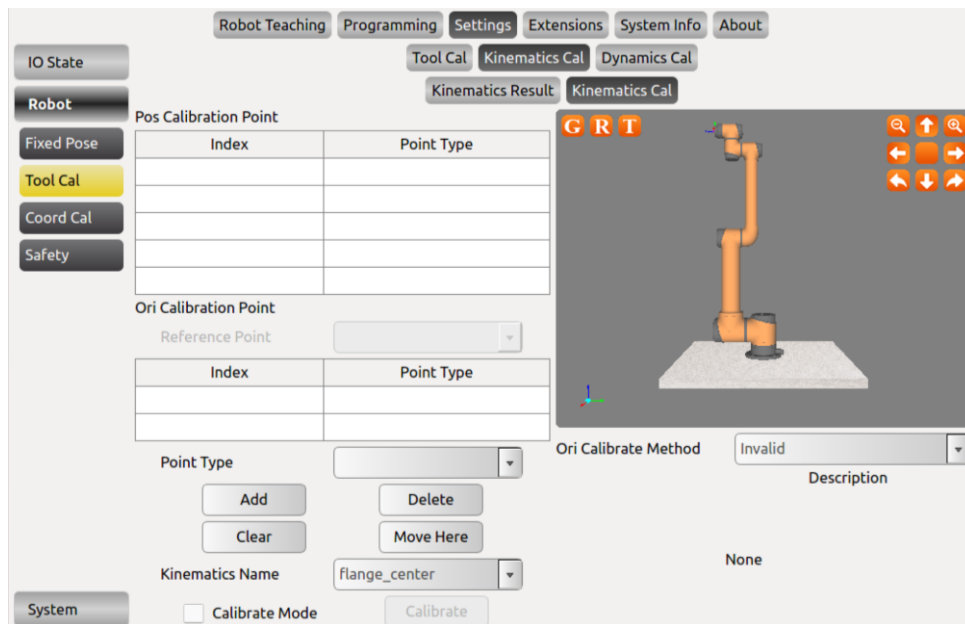

Figure 10-29 Tool Kinematics Calibrator
- Go to the kinematics calibration page as figure 10-29.